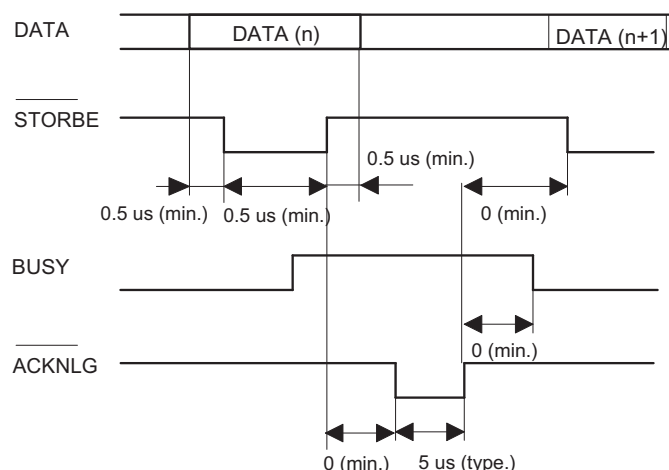

Figure 0-8. Data Transmission Timing
- During data entry (see Figure 0-8. Data Transmission Timing below.)